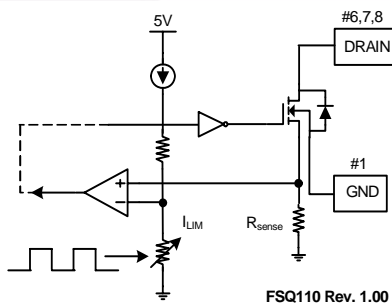

Figure 16. Soft-Start Function
**5. Soft-Start:** The FPS has an internal soft-start circuit that slowly increases the SenseFET current after start-up, as shown in Figure 16. The typical soft-start time is 10ms, where progressive increments of the SenseFET current are allowed during the start-up phase. The pulse width to the power switching device is progressively increased to establish the correct working conditions for transformers, inductors, and capacitors. The voltage on the output capacitors is progressively increased to smoothly establish the required output voltage. This also helps prevent transformer saturation and reduces the stress on the secondary diode during startup.